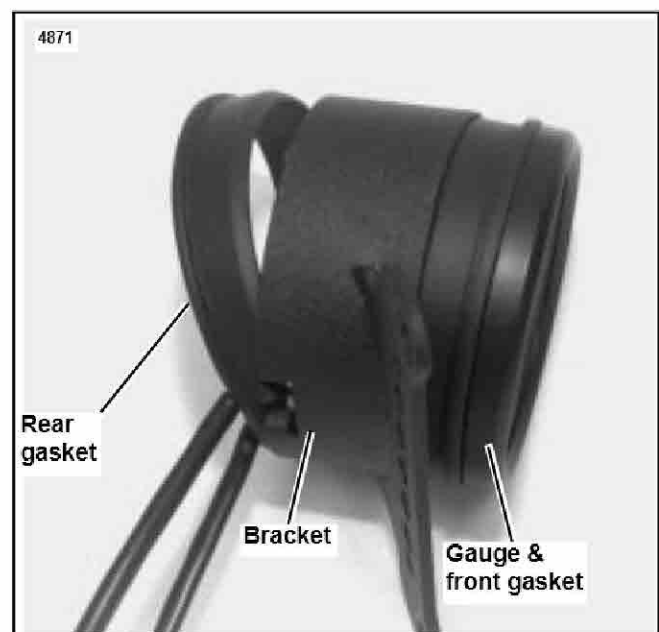

Figure 4. Speedometer/Tachometer Front and Rear Gaskets (Single Gauge Bracket Shown For Illustration Purposes)
1. See Figure 4. Remove rear gauge gasket. Push on rear of gauge while simultaneously pulling gauge and front gasket from bracket.
5. If tachometer does not function, see Figure 4 and check that all wiring connections were correctly made.
8. If speedometer does not function, see Figure 4 and check that all wiring connections were correctly made.